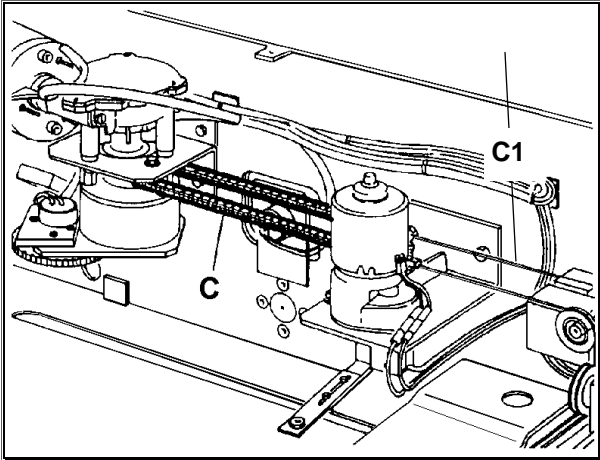

fig.7.10
c.5) Grease the chain (C) of the spot film device unit and the cable (C1).see fig. 7.10.